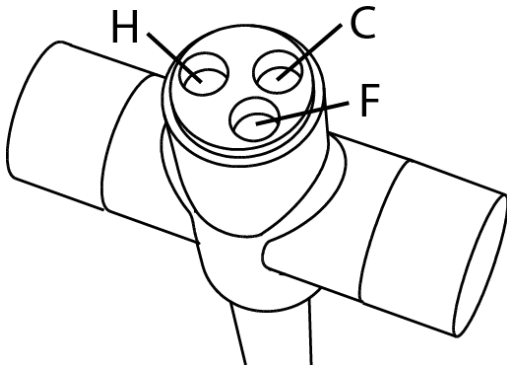

fig. 2
1. Screw the hollow fixing stud (G) into the base on the tap using a spanner or 6mm allen key. Note: drawing identifies water inlets. H = hot inlet, C = cold inlet, F = filtered water inlet and fixing (see fig. 2).
3. Place the finish matched base plinth (B) then the upper seal (C) on to the base of the tap (A).
4. Place the tap centrally and straight to the tap hole, passing the hollow fixing stud (G) and tail pipes (I & H) through the sink.
5. Pass the rubber horseshoe (E) then the metal horseshoe (F) over the hollow fixing stud (G). Note: if the tap is to be fitted to a stainless steel sink then the white triangular plate (D) can be fitted where shown to improve the stability of the tap.
6. Using a spanner tighten fixing nut (J) onto the hollow fixing stud (G), a box spanner or small basin wrench will help if one is available.
7. Place the fibre washer (K) into adaptor (L), then tighten the adaptor (L) onto the end of the hollow fixing stud (G).
8. Attach the hot water tail pipe (I) to the water feed pipe using 15mm compression or end feed joints. Note: the tail pipes can be carefully bent to give more space to allow these fittings to be attached.
9. Using compression nuts (T) and olives (U) connect the 3-way tee (V) as shown to the cold water tail pipe (H).